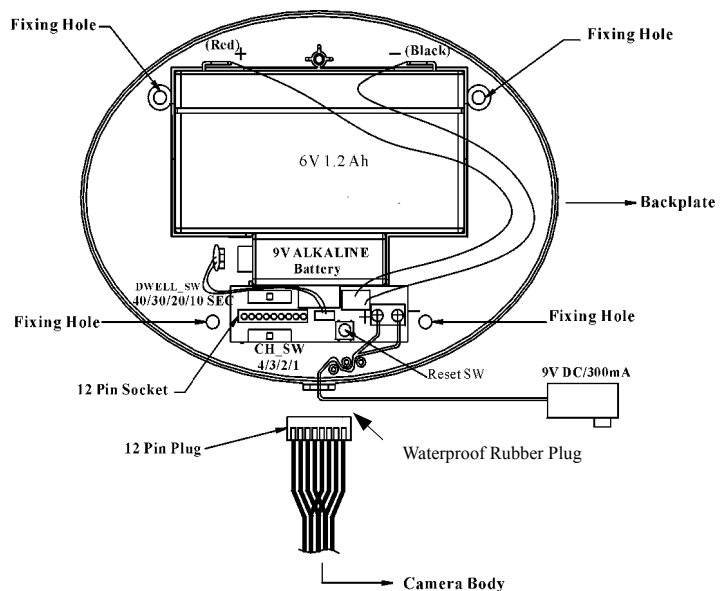

Figure 3
**Step 1: Install the camera (refer to Figure 3)**
You can also additionally have a 9V DC 300mA regulator power AC adapter and wire it on S3 (refer to Figure 3) of backplate to recharge and to transmit images and voices continuously.